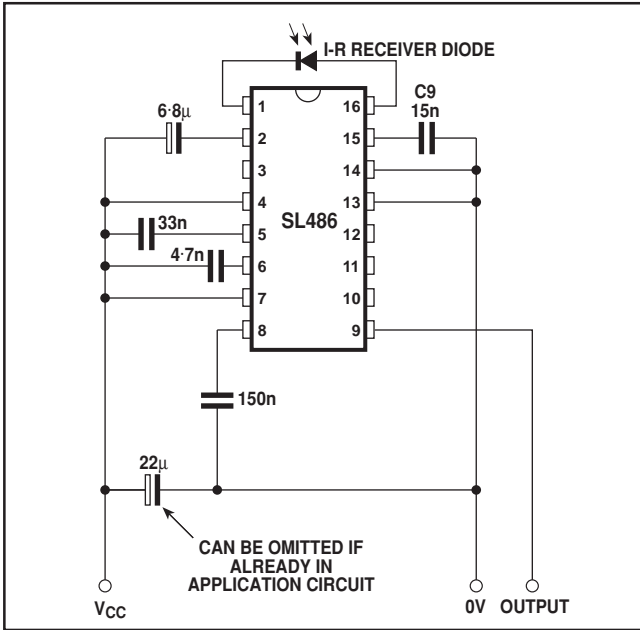

Fig. 3 Circuit diagram of minimum component application (low voltage operation)
**Regulator Input,  $V_{REGIN}$  (Pin 12)** The device can be operated with supplies of between 4.5V and 9.0V connected between input/output ground (pins 14 and 13) and input and output  $V_{CC}$  (pins 4 and 7) as shown in Fig. 3. The device can also be operated with supplies in excess of 9.0V by using the on-chip regulator. In this case connections are made between  $V_{CCO}$  (pin 7) and the regulator input  $V_{REGIN}$  (pin 12) as shown in Fig. 4. A supply voltage of between 9.0V and 18V will then cause  $V_{EEO}$  (pin 13) to be regulated at a level nominally 6.4V below  $V_{CCO}$  (pin 7). The regulator will, however, lose control with a potential difference of less than 9.0V. Below this level the voltage on pin 13 will track nominally 1.5V above the level of pin 12. When the regulator is not used (low voltage operation), pin 12 must be connected to  $V_{EEO}$  (pin 13).
**OPERATING NOTES - REFER TO FIGS. 3 AND 4**
**Gyrator C1 (Pin 3)** If the environment in which the device is operating limits the background light such that the DC component of the diode current has a maximum of 200 $\mu$ A, it may be desirable to omit (as in Fig. 3) the more bulky and costly 68 $\mu$ F capacitor (gyrator C1 shown in Fig. 4). In this case pin 3 can be left open circuit. The resultant application will then have a characteristic of greatly reduced gain when the ambient light causes the DC current to rise above this threshold. Alternatively, the 68 $\mu$ F capacitor can be replaced by a resistor.